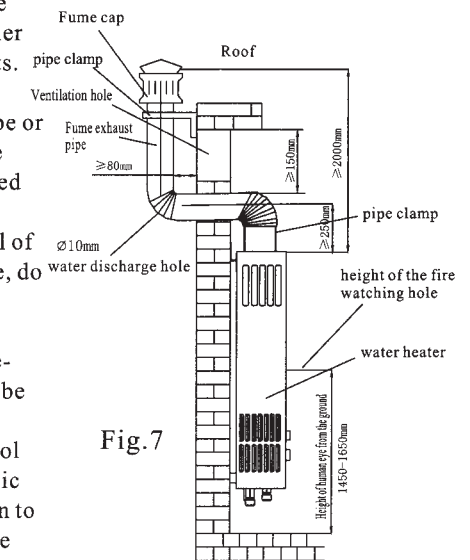

Fig.7
- Installation method of smoke discharging pipe (Fig.7)